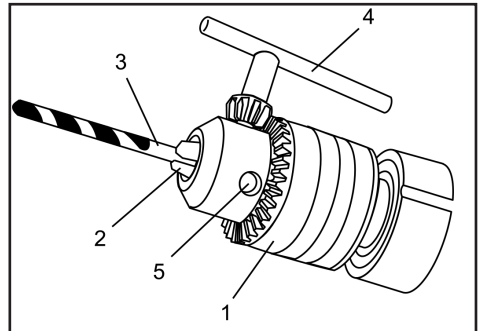

Fig.3
2. Rotate chuck collar (1) in a counter clockwise direction until the chuck jaws (2) open wide enough to accept the bit (3) (Fig. 3).